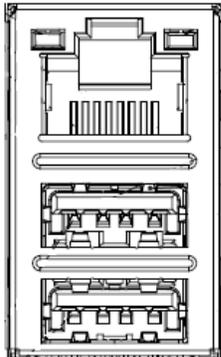

Figure 3-40: USB 2.0 and RJ45 LAN Connector
- CN Location:** See **Figure 3-40**